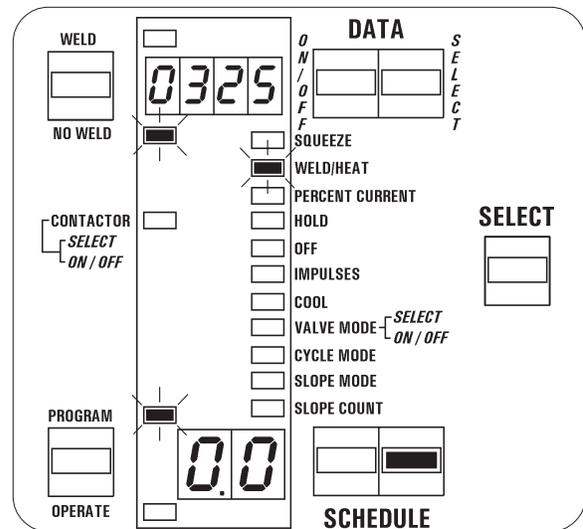

Figure 7-3. Program WELD COUNT
5. Press the SCHEDULE push buttons to find **0.0** in the SCHEDULE display (Figure 7-3).